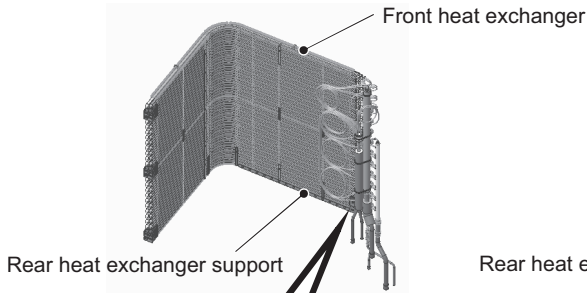

Figure 19
(21) After removing the front and the rear heat exchangers, dispose of the front and the rear heat exchanger supports. (See Figures 19 and 20.)
(22) After removing the heat exchangers, dispose of the front and the rear heat exchanger supports. (See Figures 19 and 20.) The front and the rear heat exchanger supports do not need to be installed. (The front and the rear heat exchanger supports are for suppressing vibration during transportation.)